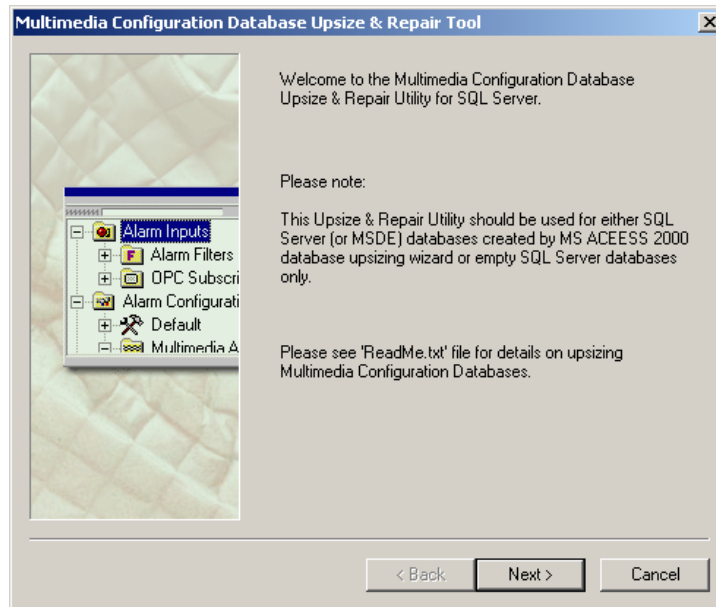

Figure D.5. Multimedia Upsize and Repair Tool: Step 1
1. When "MMXSqlRepair.exe" loads, click the **Next** button at the bottom of the dialog box, as shown in **Figure D.5**.